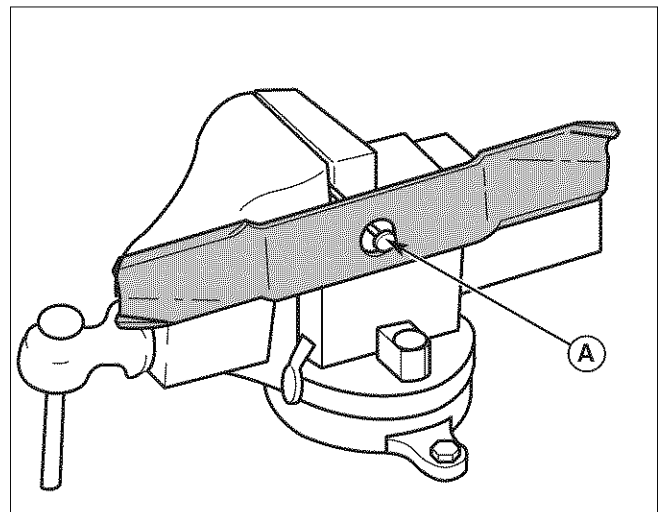

Figure 27. Balancing the Mower Blade
2. See Figure 27. Put the mower blade on a nail in a vise and turn the mower blade to the horizontal position.